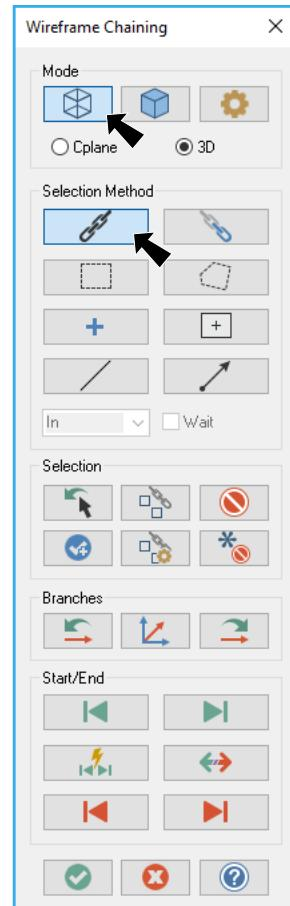

Fig. 18
Step 2. Click Chain  in Chaining dialog box, Fig 18.